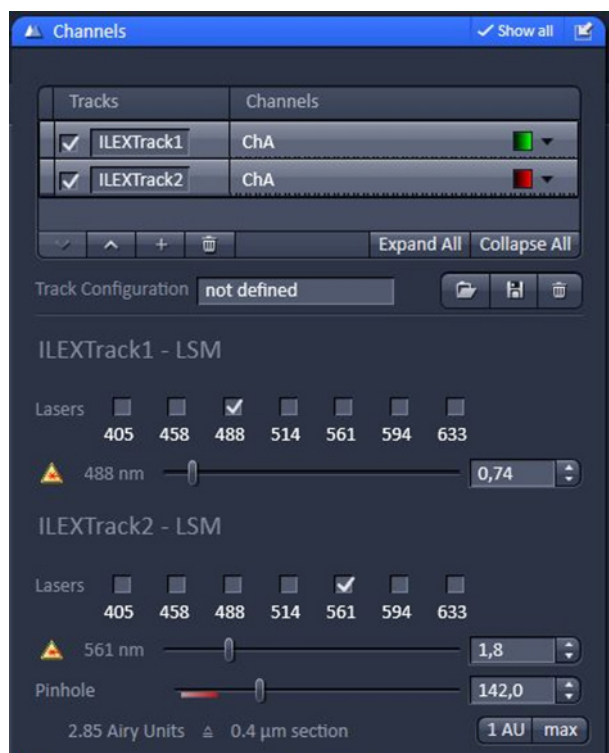

Fig. 144 Airyscan: Channels settings
This will take into account which detection mode is used for the Airyscan (SR, VP or CO, see **Channels** dialog (Fig. 144)).
- The laser power can be set individually with the slider (Fig. 144).